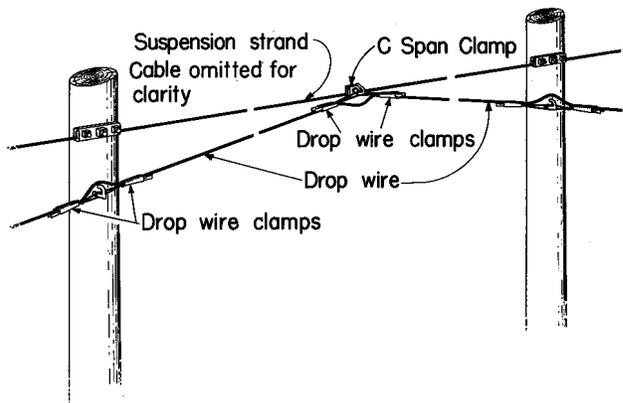

Fig. 5 — Drop Wire on Intermediate Strand Pickup
3.04 Where required ground clearances in the span can not be obtained with wire strung at a minimum sag, then one or more intermediate strand pickups can be used to reduce wire sag as illustrated in Fig. 5.